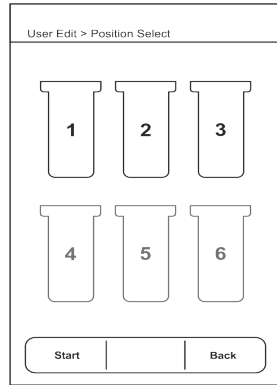

Fig. No. 23.2
- After position selected the particular position will glow up & LED will glow red (Ref. Fig. No. 23.2).